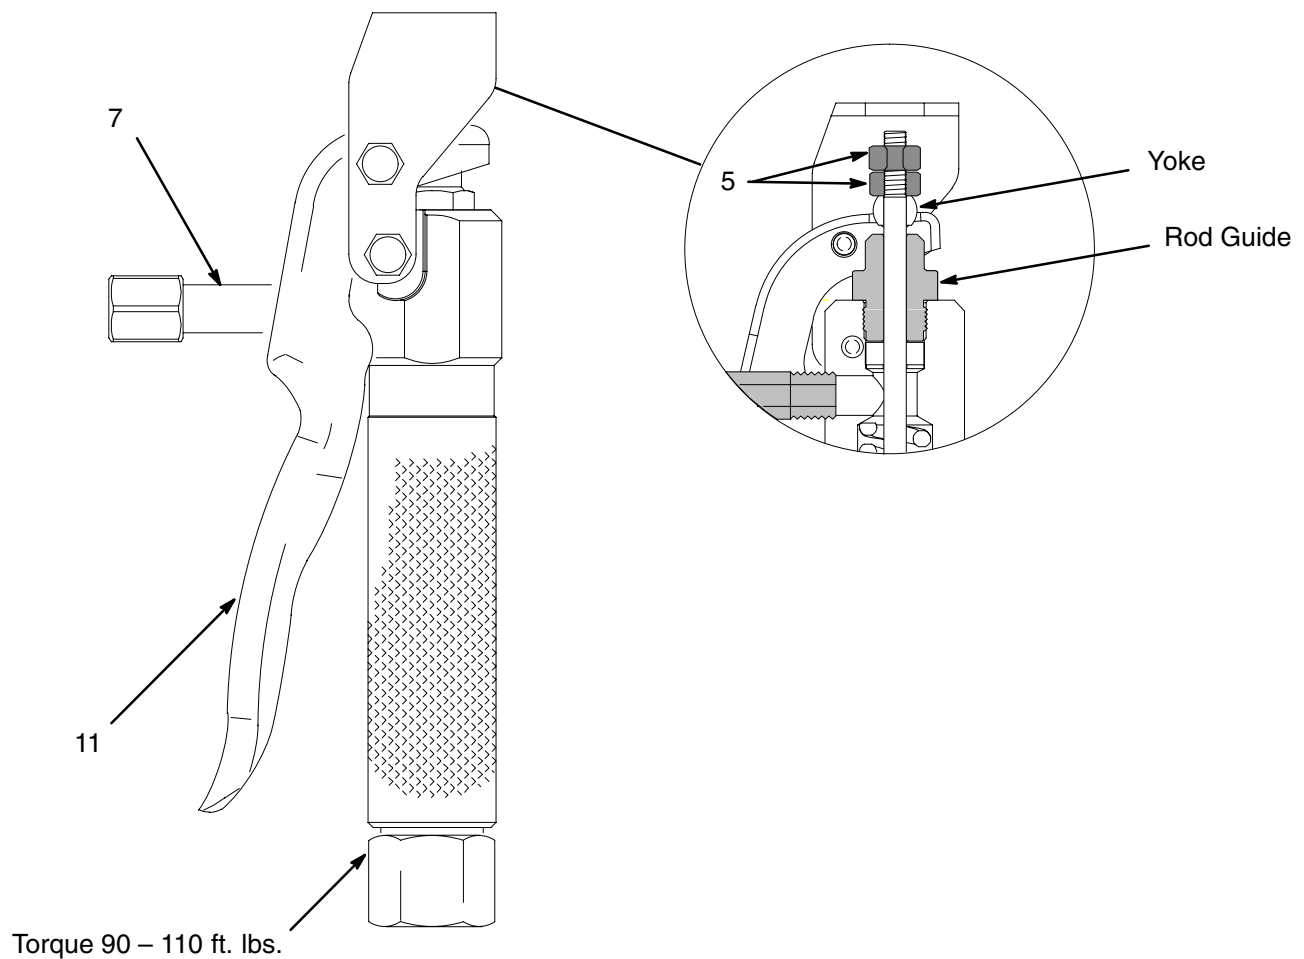

Fig. 1
2. To adjust the clearance, loosen the top nut (Fig. 1, item 5) and turn the bottom nut (5) in or out as needed. To increase grease flow turn bottom nut in. To reduce grease flow turn bottom nut out. Hold the bottom nut in place and securely tighten the top nut.
12. With trigger in free position tighten bottom nut (5) until yoke bottoms out on rod guide, See Fig.1, (this is the maximum flow setting). Back off nut approximately 1/8 turn. Hold bottom nut in place and securely tighten top nut.